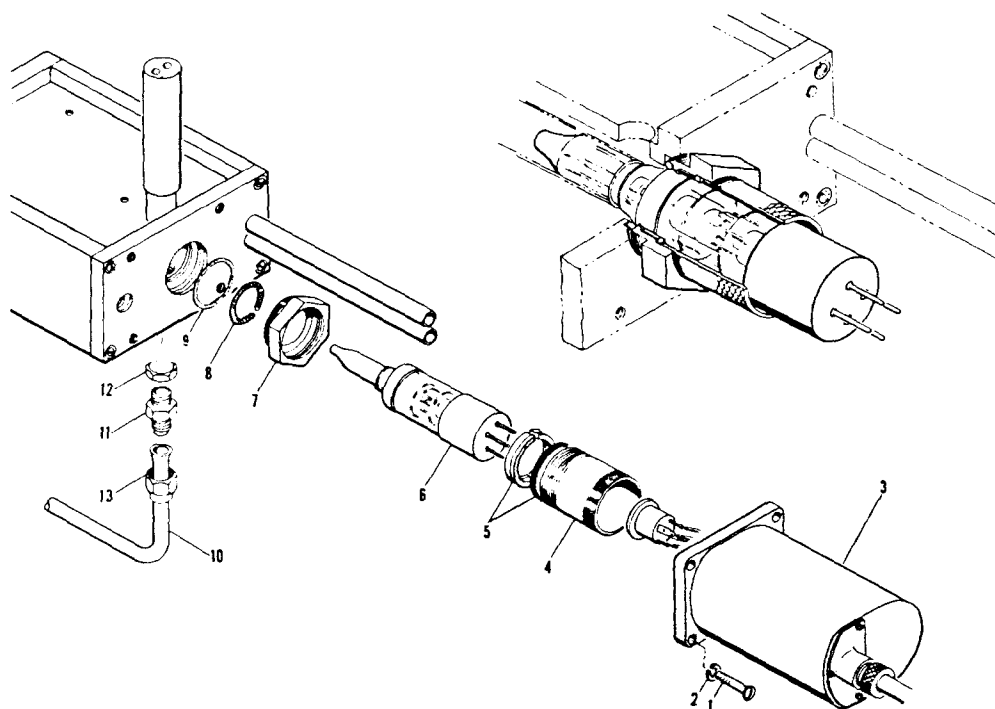

Figure 5-15. Exploded View of Klystron Mounting Parts (618C)
- a. Remove the socket housing cap, screws and lock washers (items 1 and 2, Figure 5-15). Pull the housing (3) away until the tube socket is exposed.
- c. Unscrew and remove sleeve (4) which covers klystron body. Do not at any time apply side motion to the klystron; to do so will break the tube.
a. Install new waffle seating ring (9, Figure 5-15) and then new spring (8) in cavity entrance. Ends of spring should meet to form a complete circle.
b. Thread the retaining nut (7) into cavity until it is seated very lightly against the spring. Press spring into place under the nut so that it forms a circle. Tighten the nut slightly to hold the spring in position.